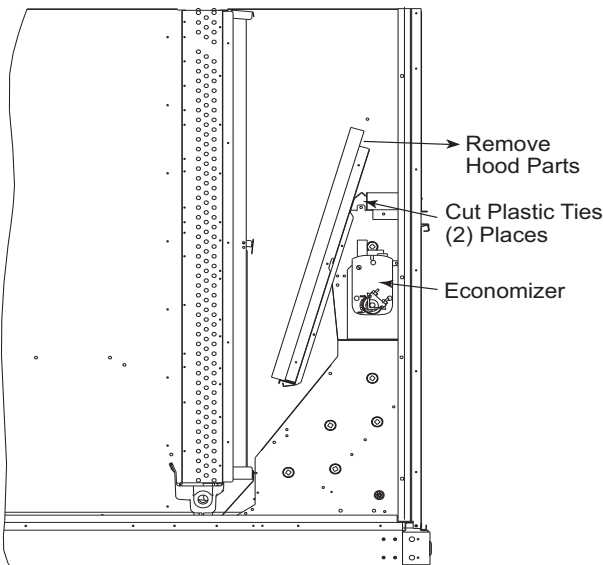

Fig. 9 — Economizer Hood Package Location
3. Locate and cut the (2) plastic tie-wraps being careful (see Fig. 9). Be careful to not damage any wiring or cut tie-wraps securing any wiring.